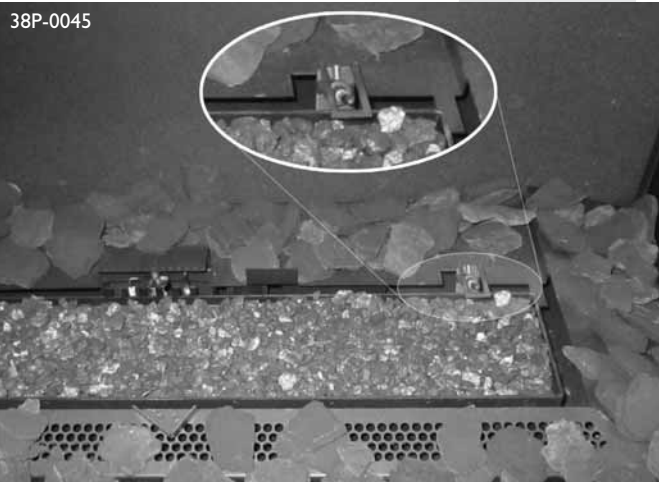

fig. 10a
- Make sure thermocouple 2 and the space around it are kept free (see Fig. 10a).